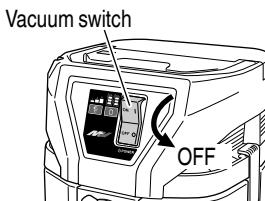

Fig. 8
1. Confirm that the vacuum switch is OFF. (Fig. 8)